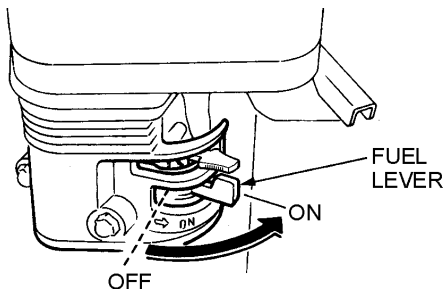

Figure 8. Engine Fuel Valve Lever
1. Place the engine ***fuel valve lever*** (Figure 8) to the "ON" position.